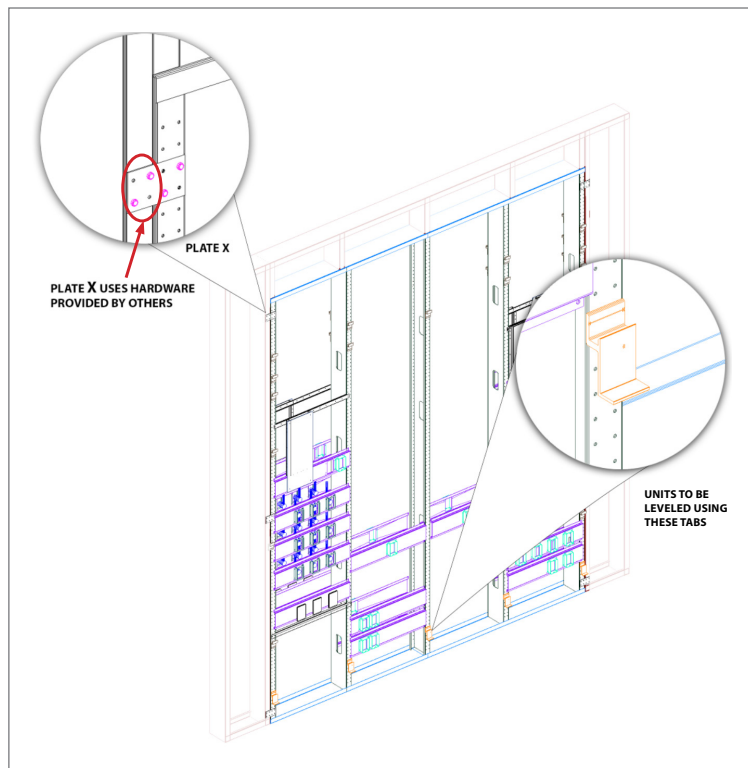

Figure 4: Single Stud Frame Installation Diagram
1. Insert stud frame section into rough-in opening (see **Figure 4**).
2. Level stud frame section using tabs detailed below (see **Figure 4**).
3. Once level, ensure unit is plumb and secure it to the left and right building studs at plate locations labeled 'X', using hardware provided by others (see **Figure 4**).
3. Level all stud frame sections using tabs detailed in **Figure 4**.